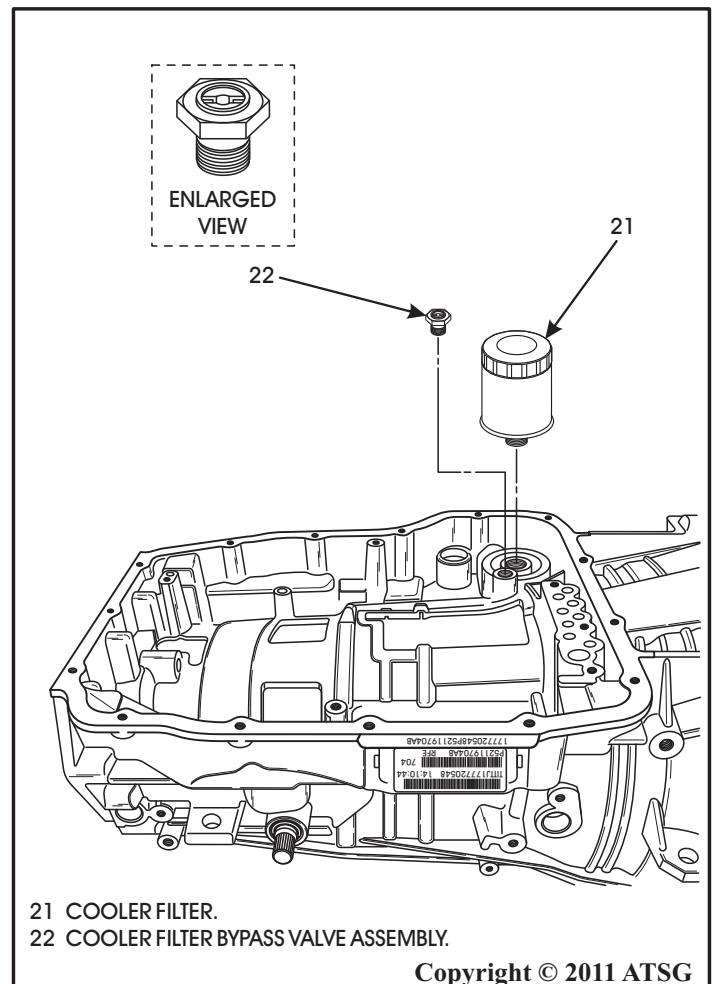

Figure 43
18. Remove and discard the cooler oil filter from the transmission case, as shown in Figure 43.
19. Remove the cooler by-pass valve assembly from the transmission case, as shown in Figure 43.